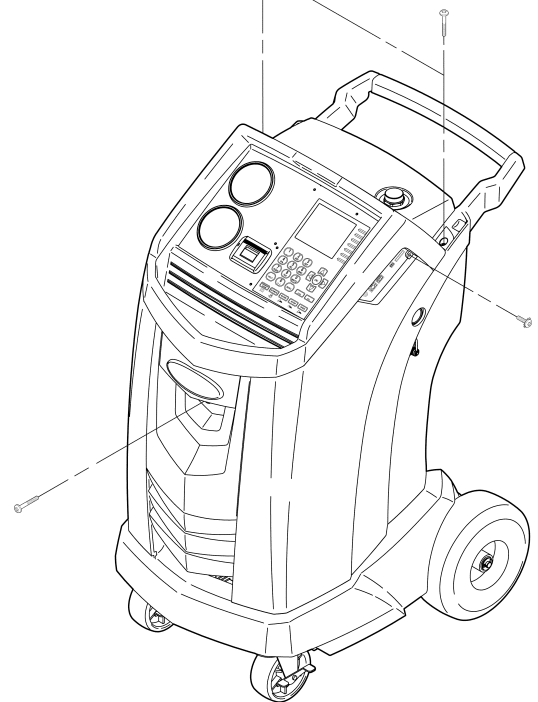

Figure 13
2. Remove the oil bottle, and remove the four screws holding the shroud. See Figure 13. Hang the shroud on the back of the machine.